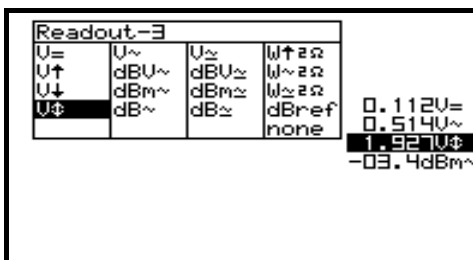

Fig 19
6. Press the cursorkeys to highlight the desired readout function for meter3 readout. (Fig. 19)